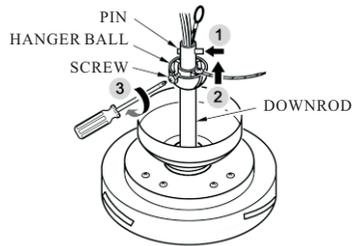

FIG. 4
4. Tighten the pin and screw previously removed and loosened in step 1. (see fig 4)